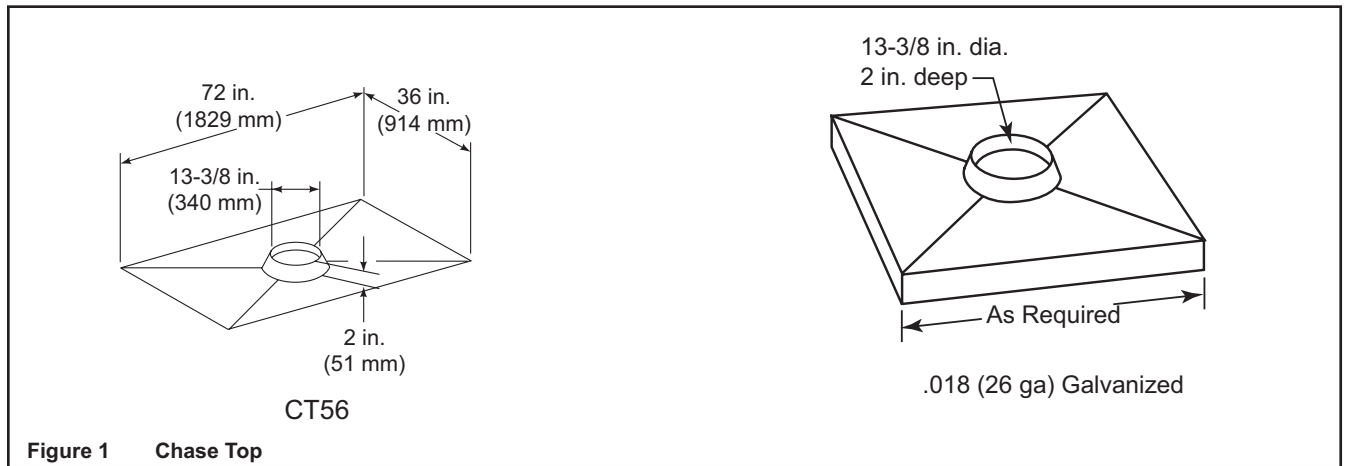

Figure 1 Chases Top
- Fabricate a chase top as shown in Figure 1 or use catalog number CT35.
- The uppermost chimney section must extend 4 in. (102) above the top of the chase top collar to allow for the installation of the termination cap and the storm collar.